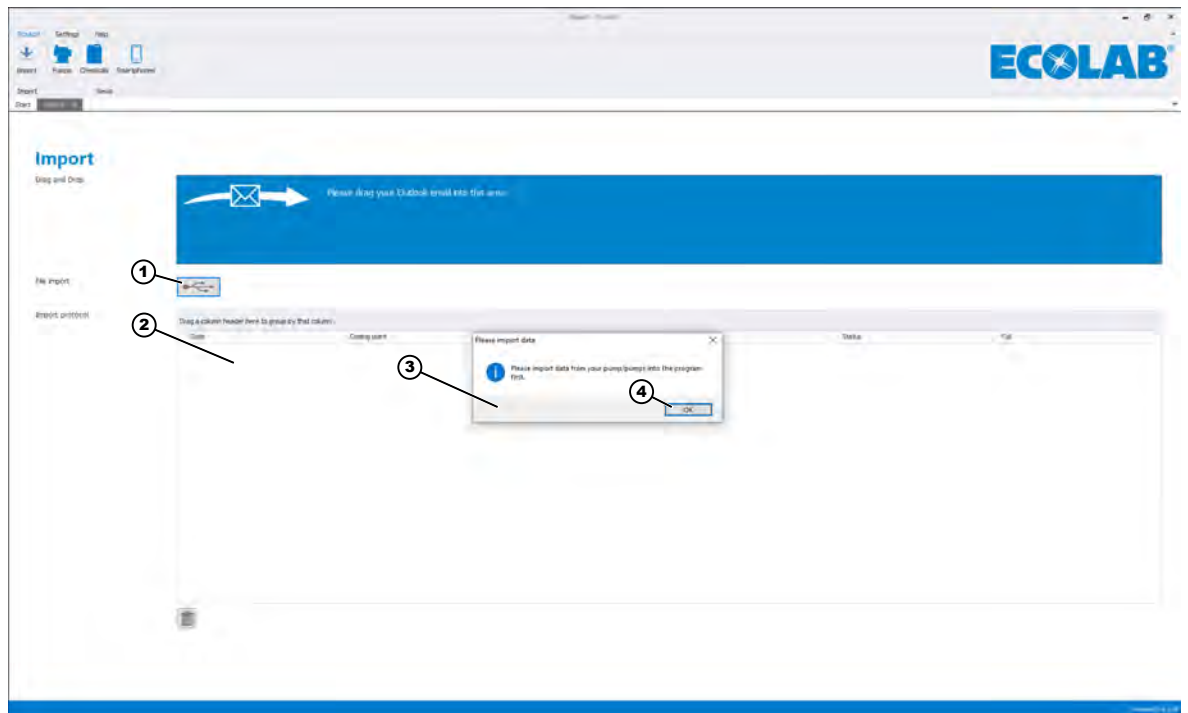

Fig. 5: USB import function
2. ➤ On the import page of the software overview Fig. 5, item 1, you can see a USB icon . Click this icon.
7. ➤ This fills the tabular display of the imported data, which is referred to as the import log (Fig. 5, item 2). The program also prompts you to "Create" dosing plants and pumps" (Fig. 5, item 3).
8. ➤ Confirm the notification window by clicking on *[OK]* (Fig. 5, item 4).